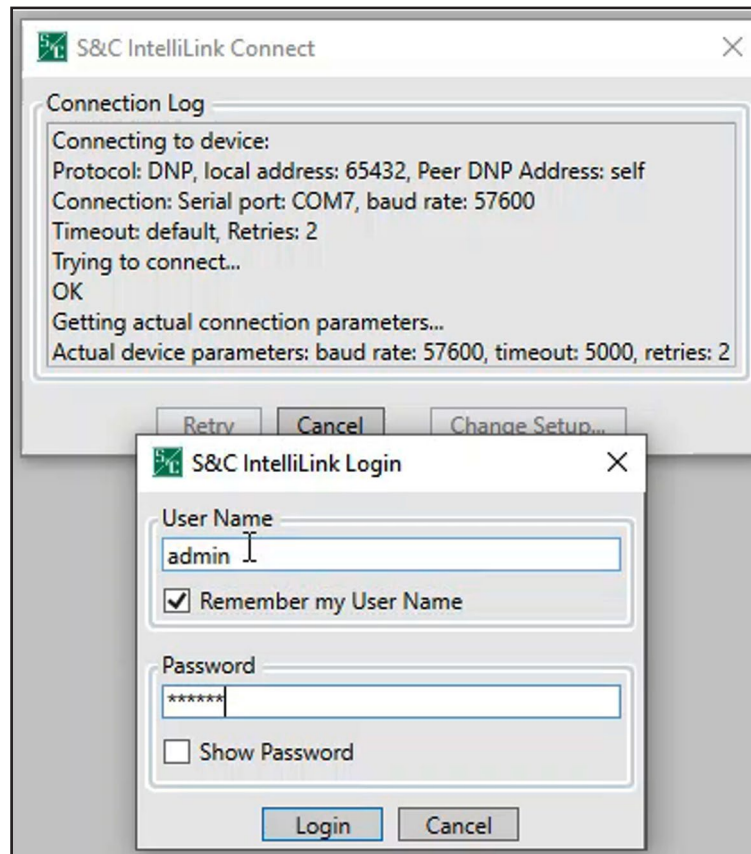

Figure 56. The IntelliLink Login dialog box.
- STEP 4.** When prompted, enter “admin” for the username and enter the Admin password in the **Password** field. See Figure 56.